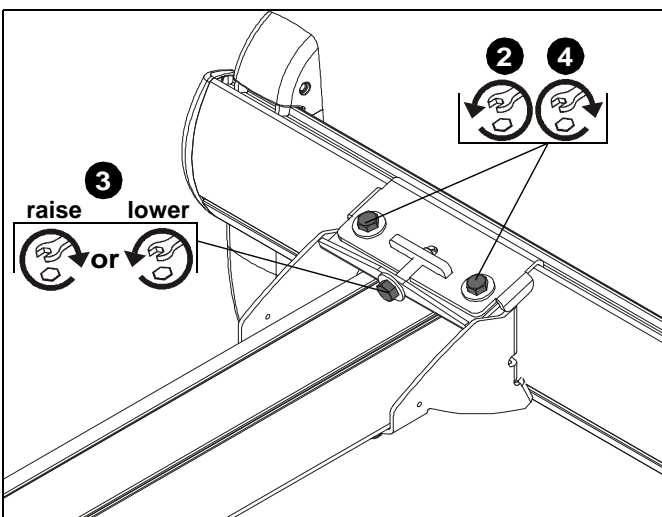

Figure 37
2. Loosen two bolts on either side of pitch adjustment screw. (See Figure 37)
3. Adjust pitch adjustment screw until mount is at desired pitch level. Turn clockwise to raise mounting level or turn counterclockwise to lower mounting level. (See Figure 37)
4. Tighten two bolts on either side of pitch adjustment screw. (See Figure 37)